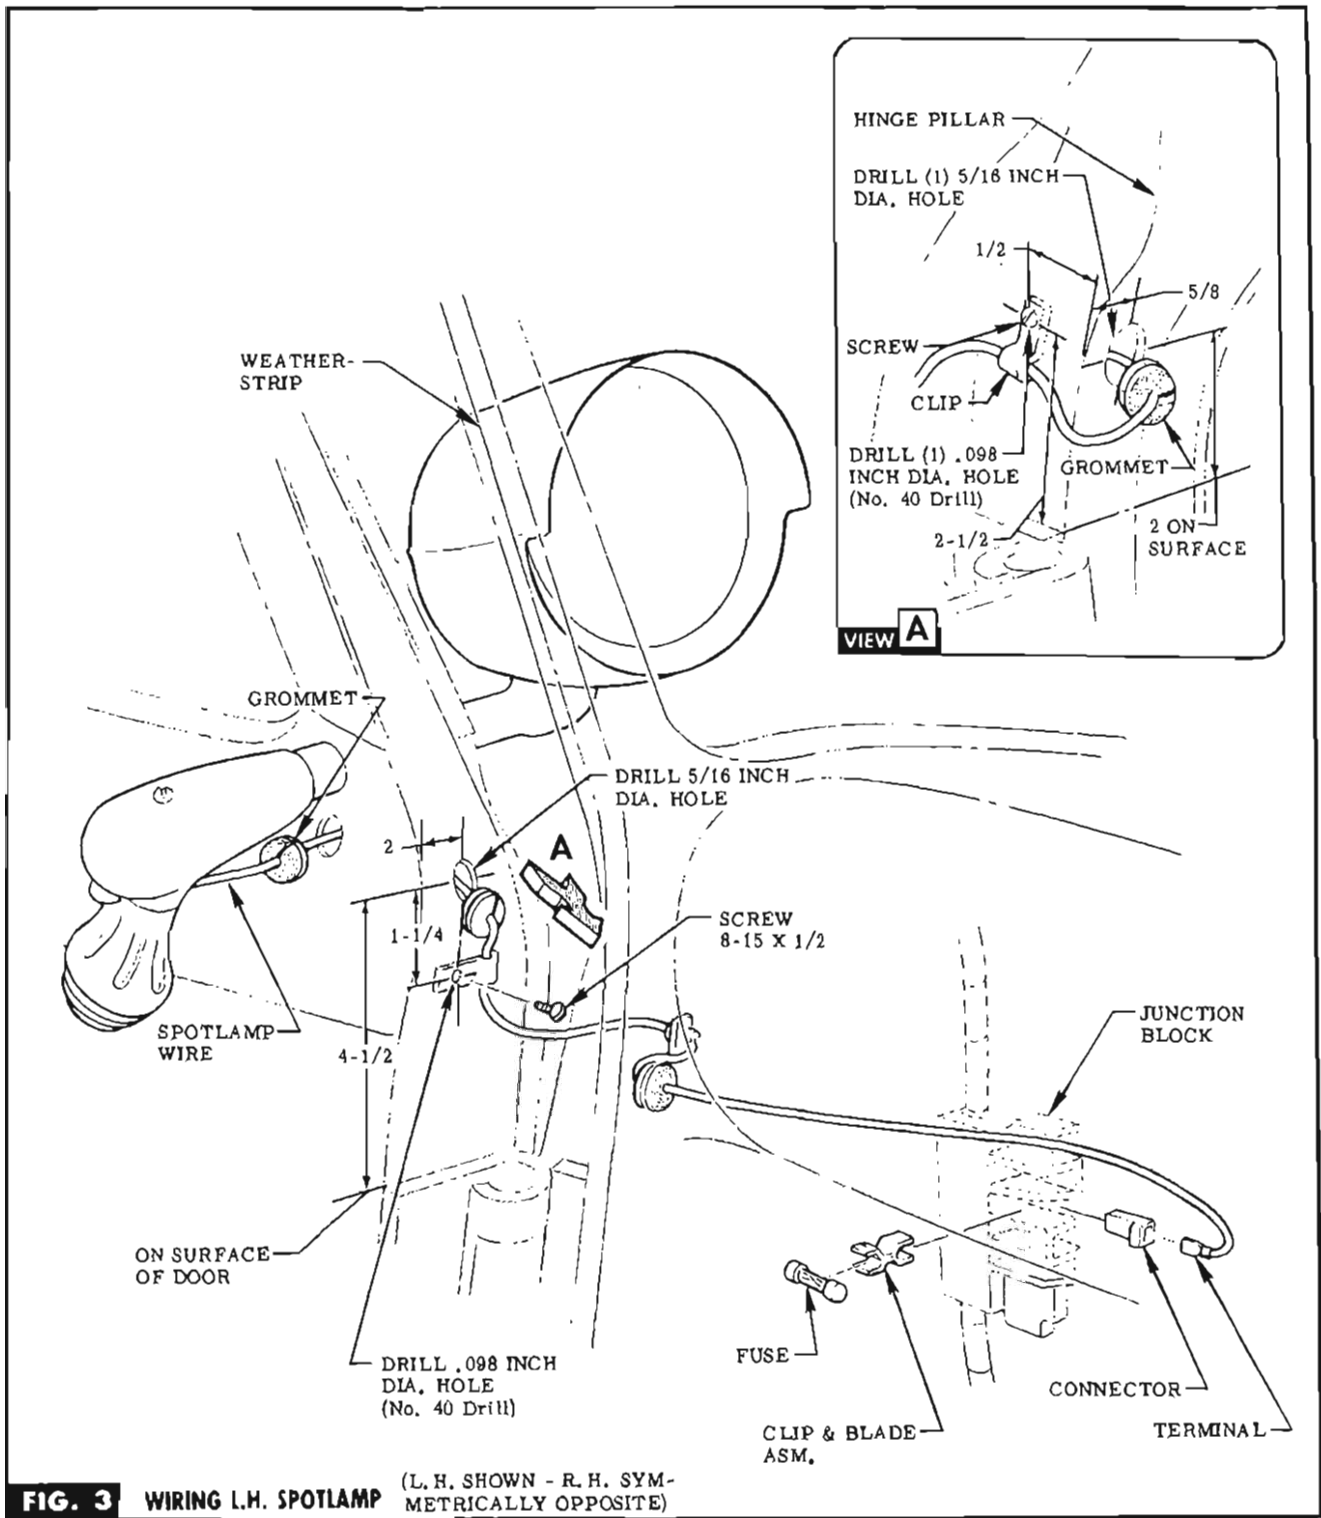

FIG. 3 WIRING L.H. SPOTLAMP (L. H. SHOWN - R. H. SYMMETRICALLY OPPOSITE)
STEP 9 LOCATE, CENTER PUNCH & DRILL HOLES ON FORWARD EDGE OF DOOR & FRONT BODY HINGE PILLAR. SEE FIG. 3 & VIEW A.
STEP 10 THREAD SPOTLAMP WIRE THRU DOOR & ROUTE THRU HOLE IN HINGE PILLAR. SEE FIG. 3.
STEP 11 PLACE GROMMETS ON WIRE & PRESS IN PLACE. ADJUST WIRE FOR SWING CLEARANCE OF DOOR. SEE FIG. 3.
STEP 12 INSTALL CLIPS WITH PROVIDED SCREWS. SEE FIG. 3 & VIEW A.
STEP 13 INSERT CLIP & BLADE INTO RECEPTACLE ON JUNCTION BLOCK MARKED "HEATER - B. U. LPS." PLACE CONNECTOR ON WIRE TERMINAL. SEE FIG. 3.
STEP 14 (L. H. SPOTLAMP) PLUG CONNECTOR INTO CLIP & BLADE & INSERT FUSE. SEE FIG. 3.
STEP 16 (R.H. SPOTLAMP) PLUG CONNECTOR INTO CLIP & BLADE & INSERT FUSE. SEE FIG. 3. **NOTE** If receptacle is occupied remove & plug into jumper wire.